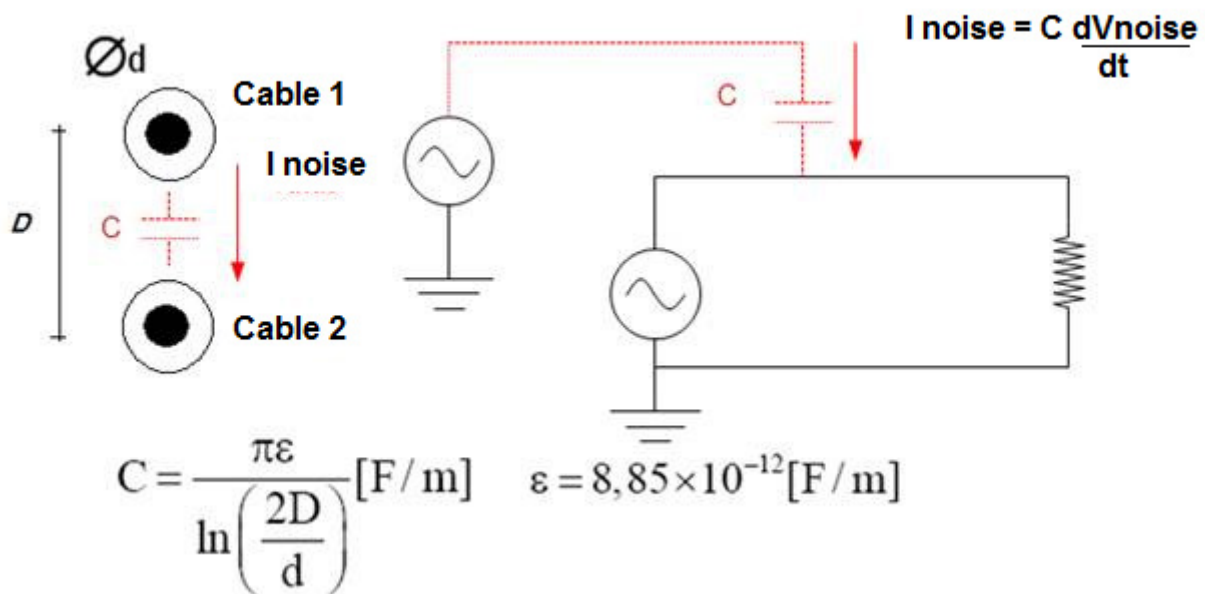

Figure 16 – Capacitive coupling between conductors at a D distance
- Figure 16 shows the capacitance on the coupling between two conductors separated by a D distance.
Figure 16 shows the capacitance on the coupling between two conductors separated by a D distance.